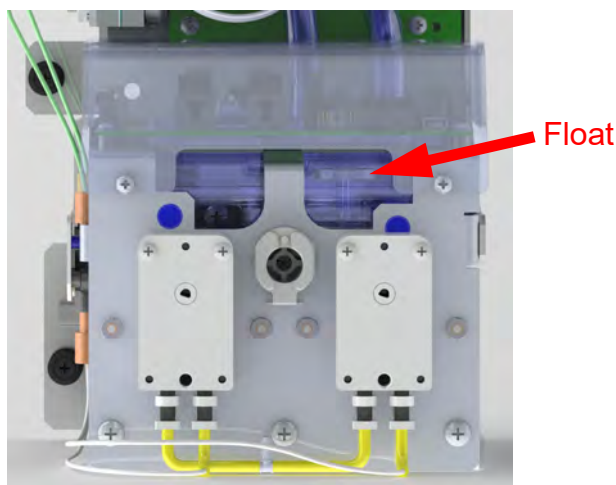

Figure 61: DI Reservoir Level with Float
4. Squeeze the bottle to fill the DI reservoir until the water line reaches **JUST BELOW** the top of the reservoir. Use the float seen through the window as a guide, as shown in Figure 61.
8. Verify that the water line is JUST BELOW the top of the reservoir, as shown in Figure 61: DI Reservoir Level with Float. Add water as needed. See “To fill the DI water reservoir” on page 212.